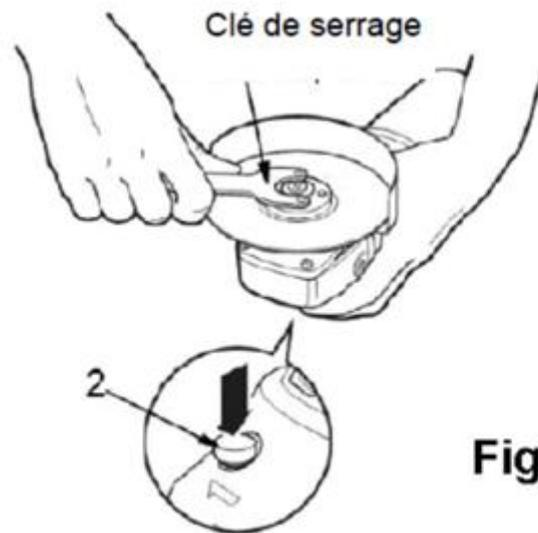

Fig.4
5.4 REMPLACEMENT DE LA MEULE (FIG. 4)